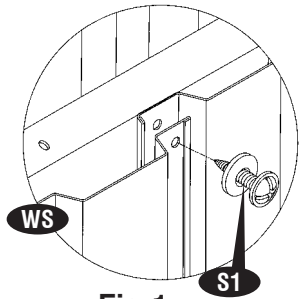

Fig.1
31. Continue to place the wall panel (WS) on top of base bar and overlap the wall panel (WS) and secure with (S1) screws with washers. See fig. 1. Use (S3) bolt and nut with washer to join together the middle of the wall panel. See fig. 2.
32. Continue to place the wall panel and secure with (S1) screws with washers. See fig. 1.